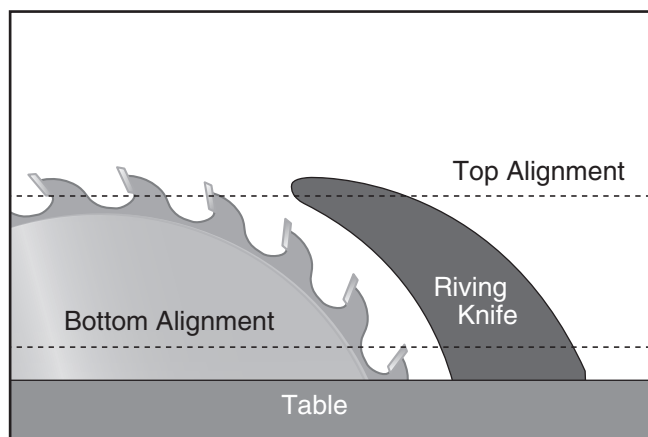
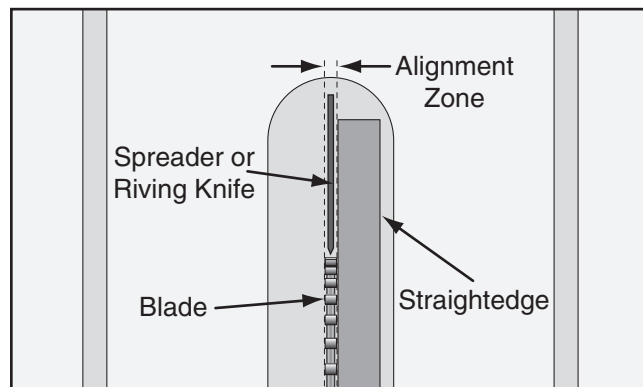

Figure 124. Checking top and bottom riving knife parallelism with blade.
Figure 125. Spreader/riving knife alignment zone.
4. Place the straightedge against the top and bottom of blade and spreader/riving knife, as shown in **Figure 124**. The spreader/riving knife should be parallel with the blade along its length at both positions and should be in the "Alignment Zone," as shown in **Figure 125**.